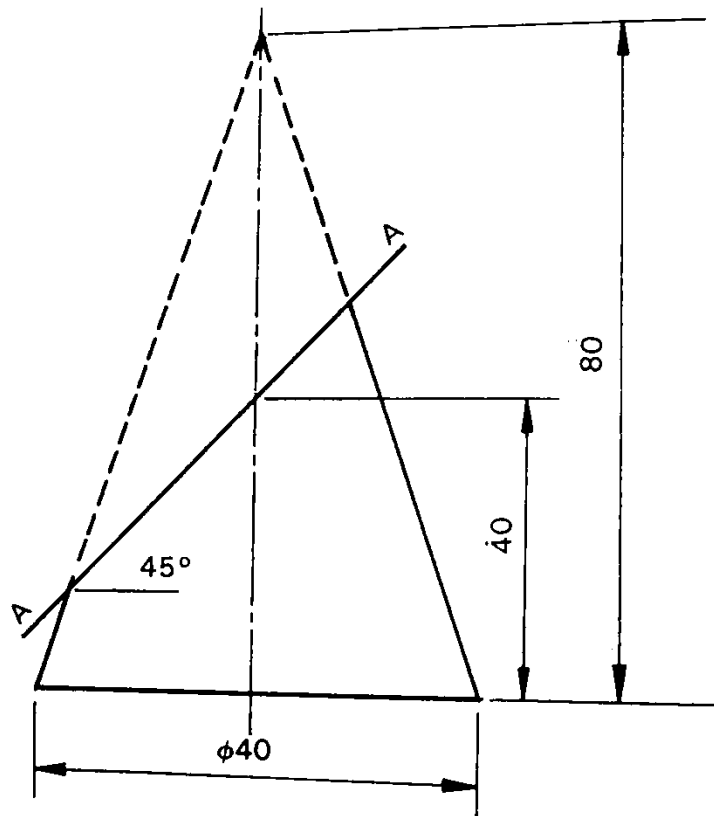

Figure 2
12. (a) Figure 2 shows the frustrum of a right cone. Draw the surface development of the frustrum when opened on a shorter side. **(15marks)**